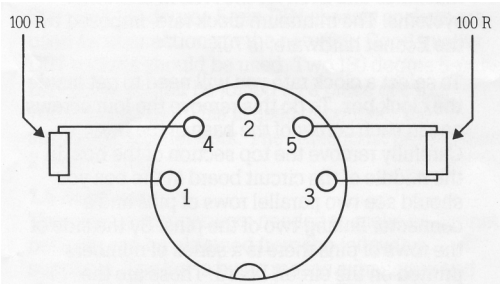

Figure 3: Wiring a test DIN plug
- (1) Plug a 5-pin DIN plug wired with two 100 ohm resistors as in figure 3 into one of the sockets at the extreme end of the network cable.
- (2) Connect a meter between the two clock lines at the other extreme end. The meter should read less than 140 ohms for reliable operation. If no reading is obtained move towards the other end, one socket at a time, until you obtain a reading. At this point the fault will lie between the socket under test and the socket previously tested. Note that the fault could be bad soldering in either socket or bad cable between the two sockets.
- (3) Once you have checked that the two clock lines are correct, repeat the tests for the data lines.